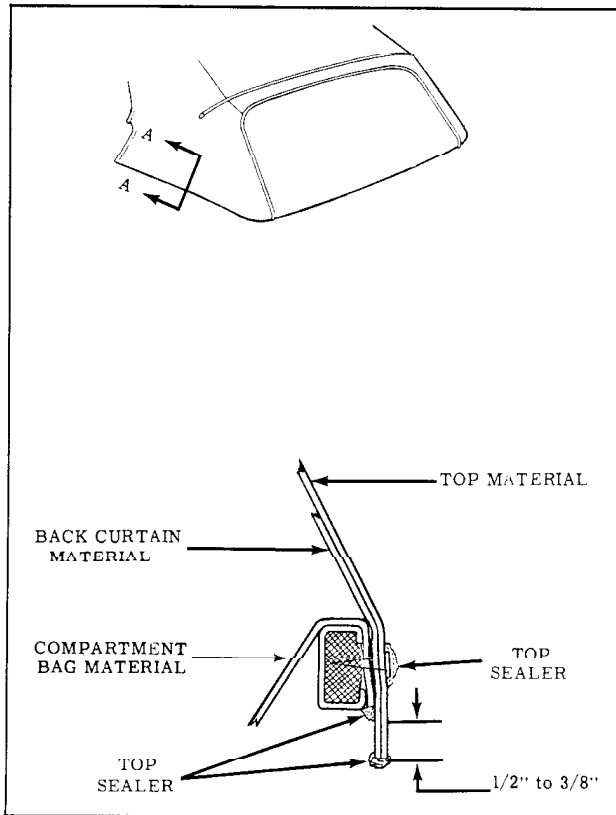

Fig. 17-41 Sealing at Trim Sticks
42. Remove trim sticks with attached top material from top compartment well. Back curtain should extend $1/2''$ below trim sticks. (See Step 9 of installation procedure.) In addition, top material must extend $1/2''$ to $5/8''$ below trim sticks to minimize water wicking on inner lining of back curtain material. (View "A-A", Fig. 17-41) Trim top material as required.
43. Apply convertible top sealer onto all trimmed edges, around each tack head and around each trim stick attaching bolt. (View "A-A" Fig. 17-41)